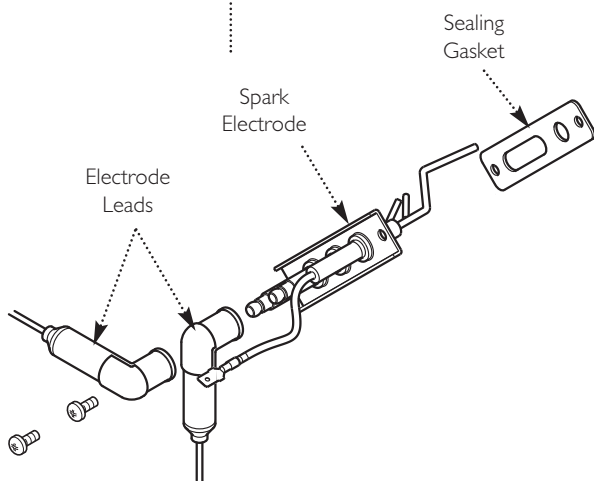

Fig. 55
13.2 Electrode Assembly (Fig. 55)